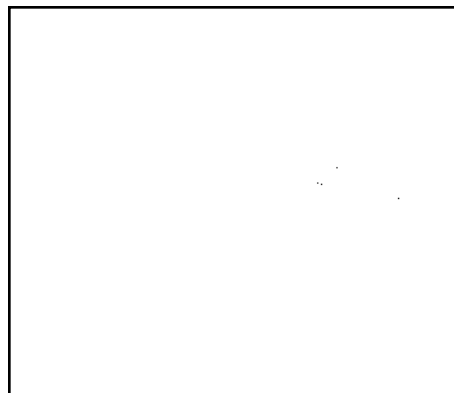

Figure 11
6. Attach foot pump's hydraulic hose to tower ram's quick coupler or to lift ram quick coupler. (See Figure 11.)